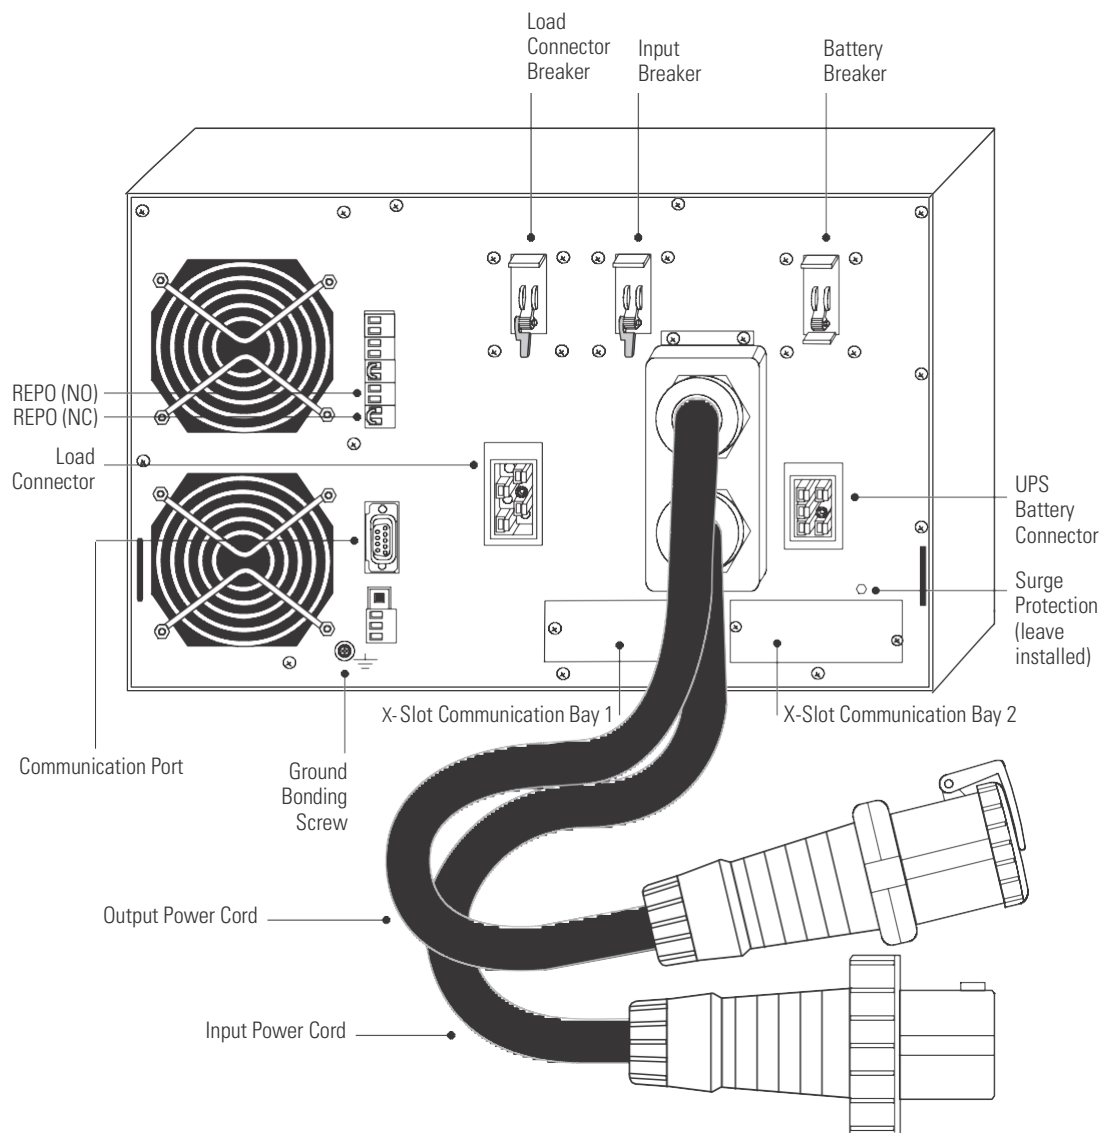

Figure 60. BladeUPS Module Rear Panel (Standalone UPS Shown with IEC 309-60A Output Power Cord)
1. Verify that the circuit breakers on the UPS rear panel are in the OFF (O) position (see Figure 60 on page 74).
4. If your rack has conductors for grounding or bonding of ungrounded metal parts, connect the ground cable (not included) to the ground bonding screw. See Figure 60 for the location of the ground bonding screw.
Eaton recommends installing the Powerware Hot Sync CAN Bridge Card in X-Slot Communication Bay 2 (see Figure 60 on page 74), leaving Communication Bay 1 available for other types of X-Slot cards.
18. If your rack has conductors for grounding or bonding of ungrounded metal parts, connect the ground cable (not included) to the ground bonding screw. See Figure 60 on page 74 for the location of the ground bonding screw.